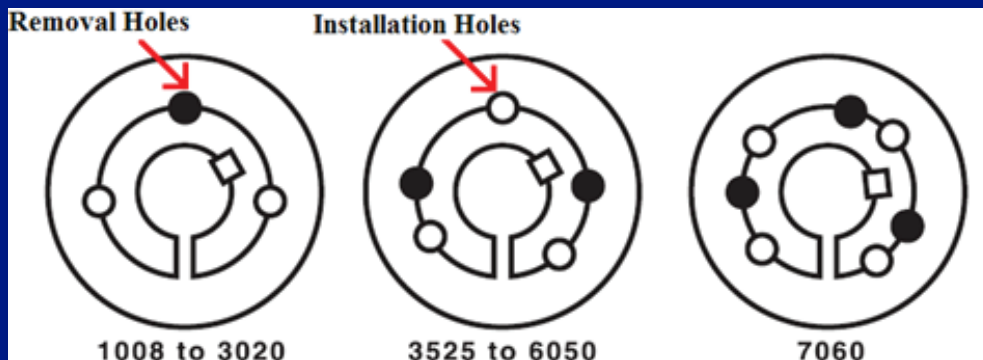

Figure 1 – Taper-Lock Bushing Installation Diagrams
2. Insert the bushing into the sprocket/sheave hub and align the holes. All of the holes should be half threaded. The installation holes will be threaded on the sprocket side, but not the bushing side. The removal holes will be threaded on the bushing side, but not the sprocket side. See Figure 1 below.
3. "LIGHTLY" oil the bolts and thread them into the half-threaded installation holes indicated by the white installation holes in Figure 1.
- Insert bolts into all jack screw holes indicated by dark removal holes in Figure 1 on page 1.